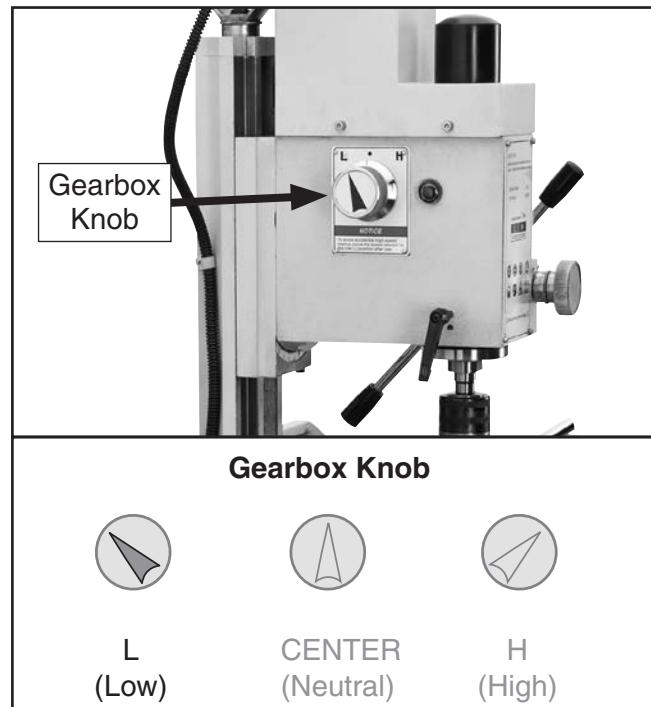

Figure 22. High/low gearbox knob set to low "L".
15. Rotate high/low gearbox knob to low "L" (see **Figure 22**).